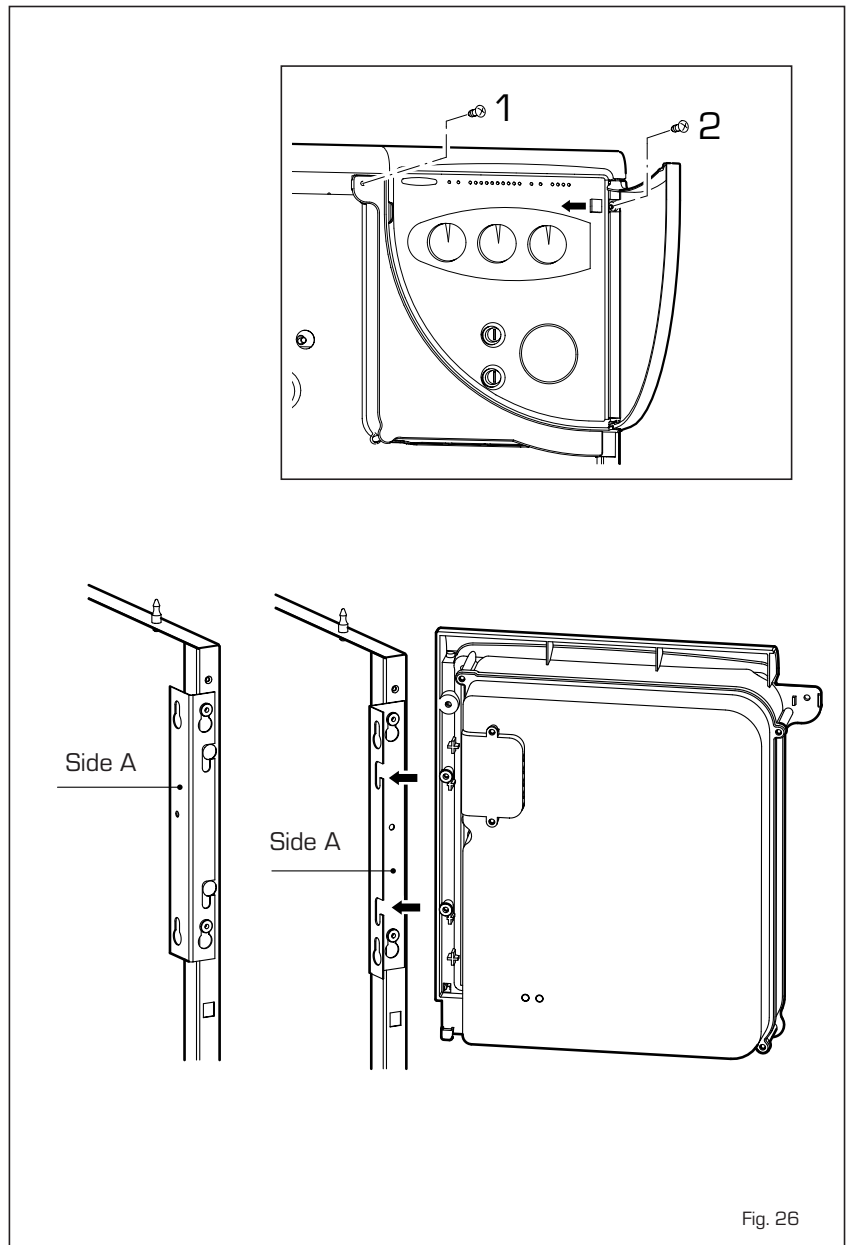

Fig. 26
4.8.1 Disassembly the control panel and skirt cover lid (fig. 26)